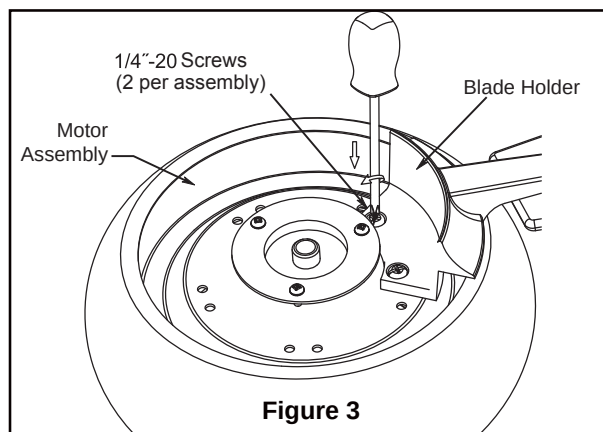

Figure 3
- ☐ 3. Secure the blade holders to the bottom of the motor assembly using the 1/4"-20 screws from the hardware bag. (Figure 3)
- ☐ 3. Remove one of the three screws in the light plate assembly and retain the screw for later. Slightly loosen the remaining two screws. (Figure 3)